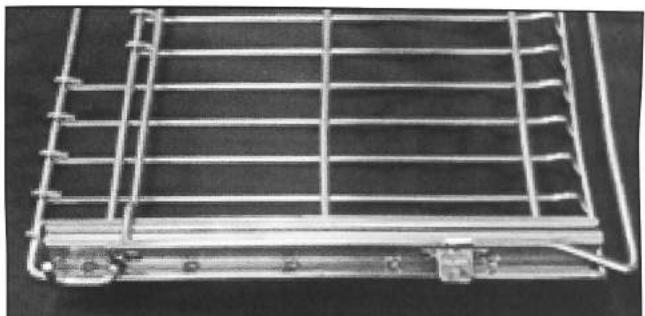

FIGURE 9
23. Place the rack upside down on a flat protected surface that will support the rack width. See Figure 9.